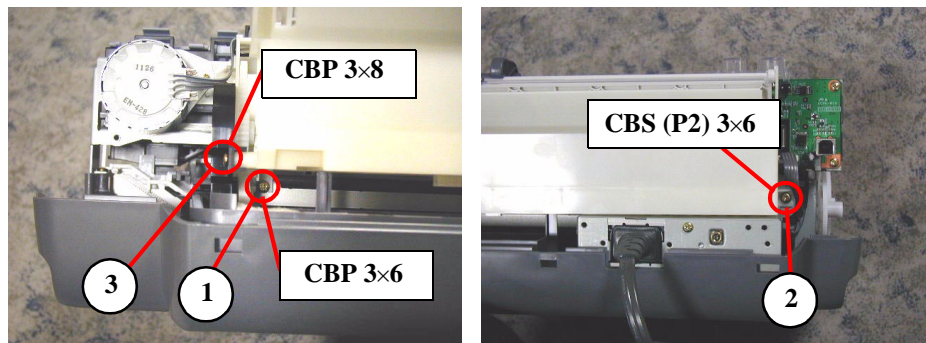

Figure 4-6. Removing the ASF unit
- When reassembling the ASF unit tighten screws from lower numbers in Figure4-6.